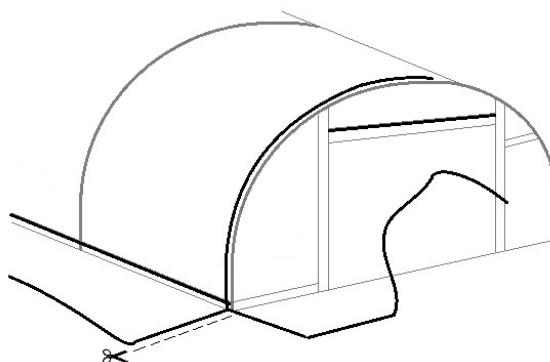

Fig124
- **STEP 3:** With just the four corners and door posts left, it will now be necessary to cut the polythene at the corners, but **ONLY** below the base rails, to allow the cover to come smoothly around the ends (**Fig124**). It is important that the cover is cut in line with the end of the tunnel, **NOT** the length.